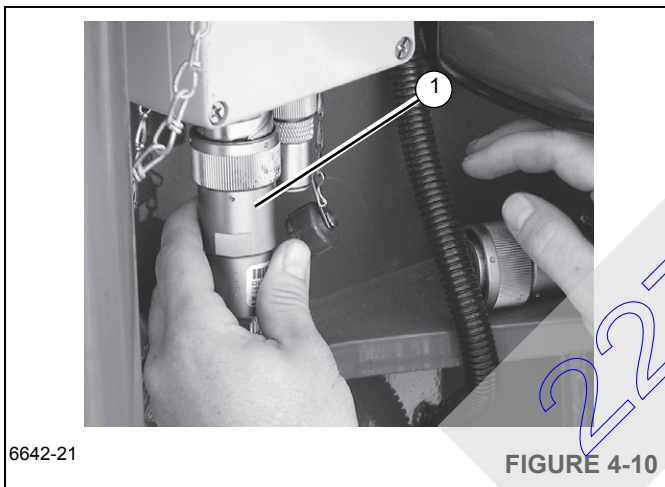

FIGURE 4-10
- c. Install cable end connector (1) Figure 4-10 from boom extension where dummy plug was removed.